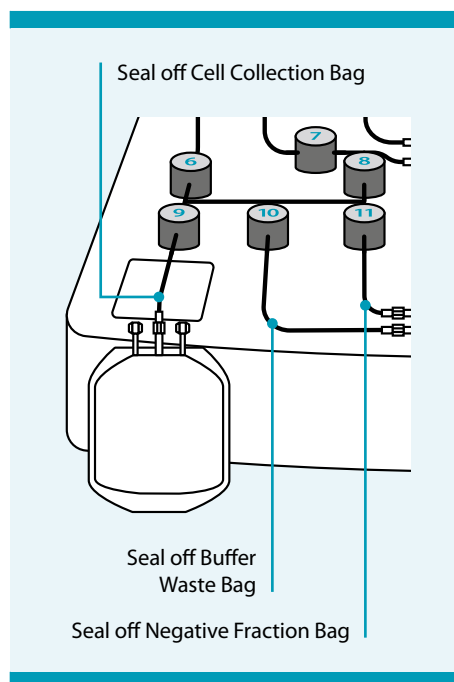

Figure 7.23: Disconnect bags
2. Clamp or seal the tubing above the luer lock connecting the Cell Collection Bag to the tubing set (see Figure 7.23).